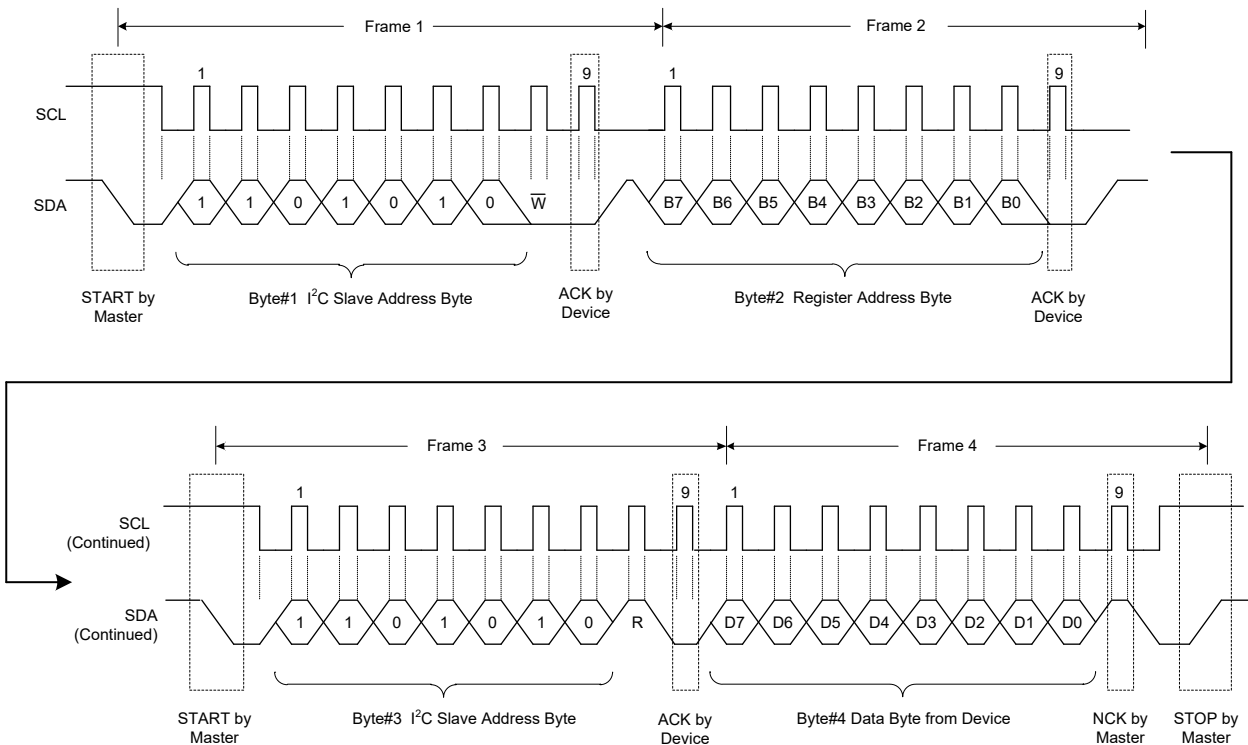

Figure 12. A Single Read Transaction
**READ:** If the master wants to read a single register (Figure 12), it sends a new START condition along with device address with R/W bit = 1. After ACK is received, master reads the SDA line to receive the content of the register. Master replies with NCK to inform slave that no more data is needed (single read) or it can send an ACK to request for sending the next register content (multi-read). This can continue until an NCK is sent by master. A STOP must be sent by master in any case to end the transaction.